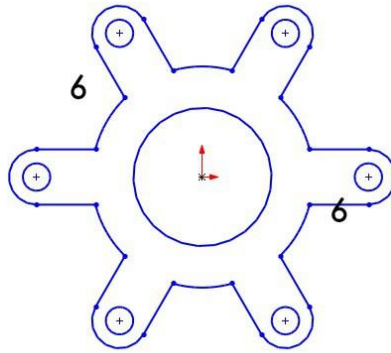

Figure 3-12 *Final sketch*
10. Enter **25** in the **Radius** spinner in the **Circle PropertyManager**. Next, choose the **Close Dialog** button to exit the **Circle PropertyManager**. The final sketch of the model is shown in Figure 3-12. In this figure, all relations are hidden for clarity.